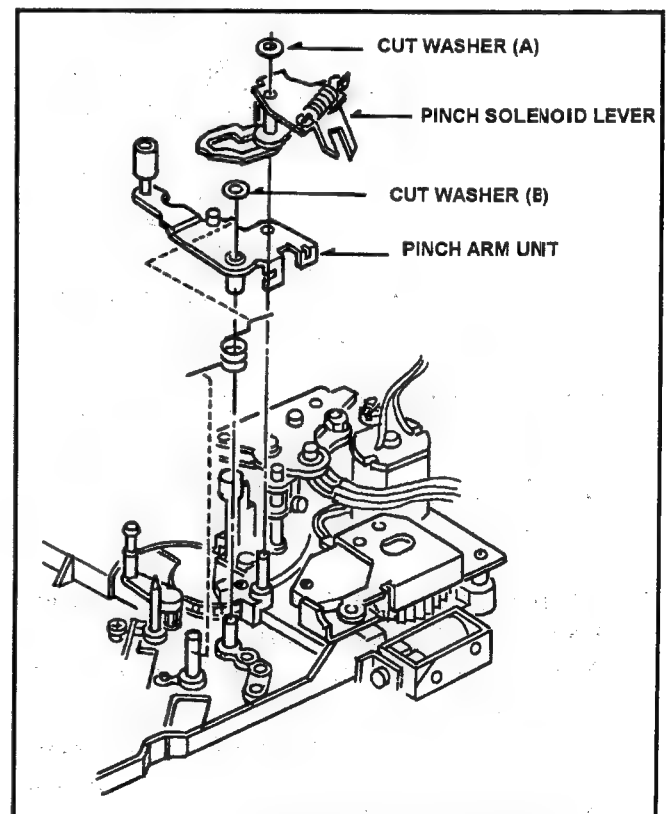

Fig. 8-5-1 Removal of Pinch Arm Unit
4. Remove the Pinch Solenoid Unit (Refer to item 8-9, and pull up the Pinch Solenoid Lever as shown in Figure 8-5-1).
5. Remove the **cut washer (A)** to remove the Pinch Solenoid Lever as shown in Figure 8-5-1.
6. Remove the **cut washer (B)** to remove the Pinch Arm Unit as shown in Figure 8-5-1.